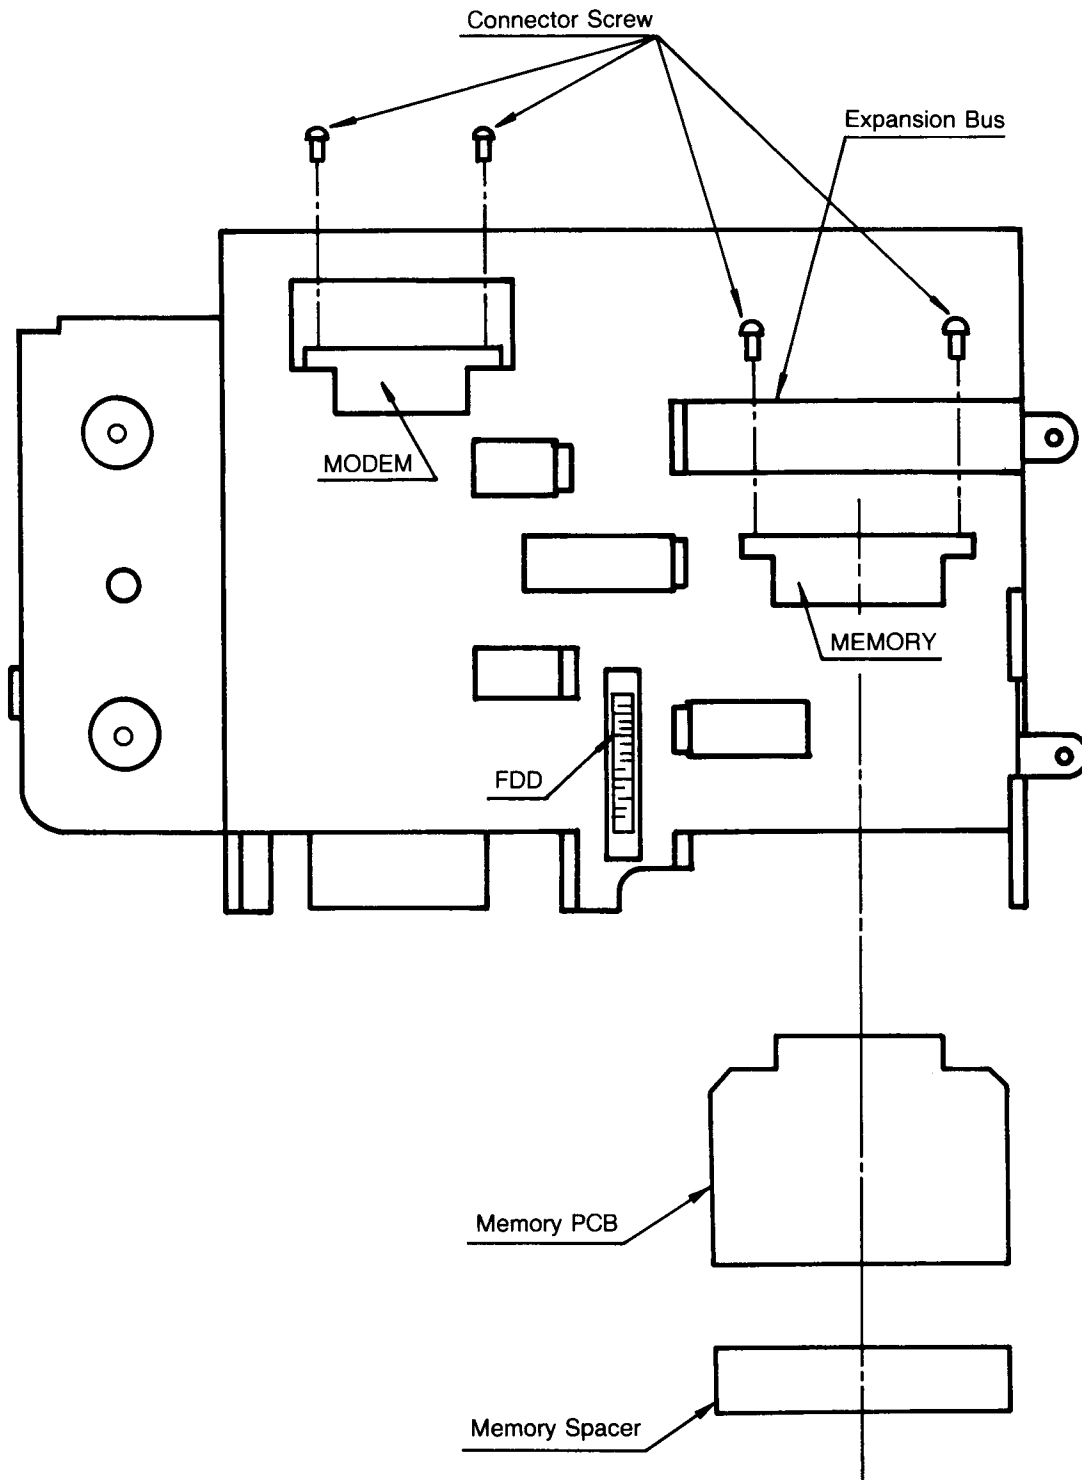

Figure 2-19. Bottom View of Base Frame
- (1) Turn over the Base Frame and remove the Memory Spacer and the Memory PCB. (Figure 2-19)
- (2) Remove the Expansion Bus Cable and the FDD Cable.
- (3) Remove two Modem connector screws and two Memory connector screws, then remove the cables from the Base Frame.